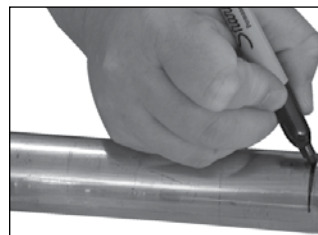

Figure 3 — Marking for Insertion Depth
2. Mark the tube with a permanent marker to indicate the proper tube insertion depth (Figure 3).